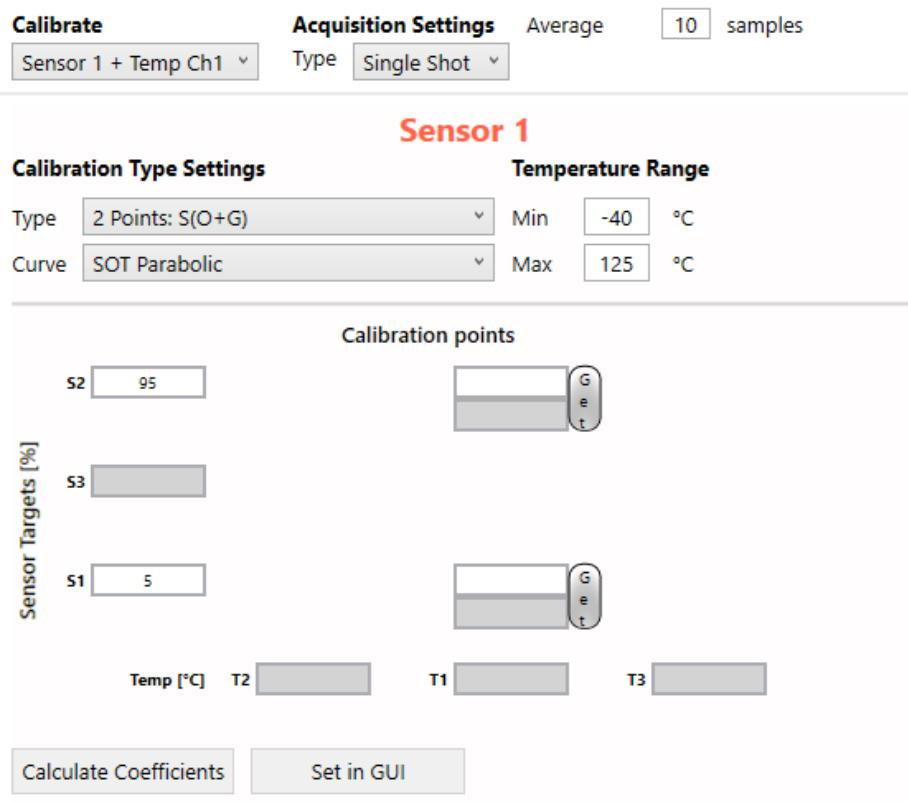

Figure 167. Calculate Coefficients, Set in GUI
When the complete set of calibration data is collected, the correction coefficients can be calculated by clicking the 'Calculate Coefficients' button (see Figure 167).
- Success: save the calibration coefficients in the NVM by clicking the 'Set in GUI' button (see Figure 167) and execute a Memory Write.